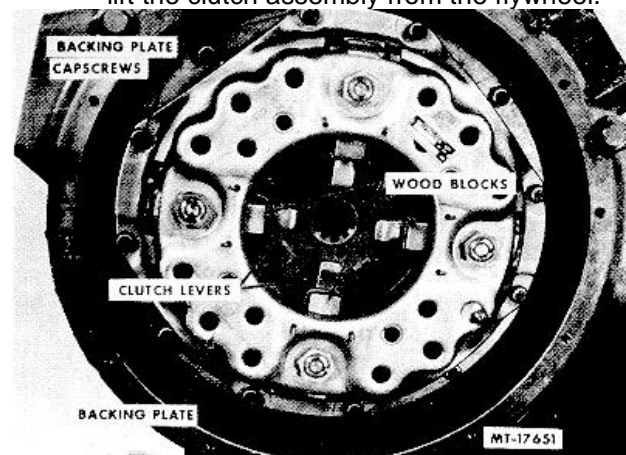

Fig. 33 Clutch Removal
- a. On the clutch plate shown in Figure 33, the clutch plate should be compressed with wood blocks (6 mm x 25 mm x 76 mm / 1/4" x 1" x 3") positioned between the clutch levers and backing plate. Use of these blocks eliminates the possibility of distorting the backing plate. Loosen the backing plate to flywheel retaining capscrews adjacent to each clutch lever only enough to wedge the wood block in position. Repeat this operation on each clutch lever. After all wood blocks are in place, remove all retaining capscrews and lift the clutch assembly from the flywheel.